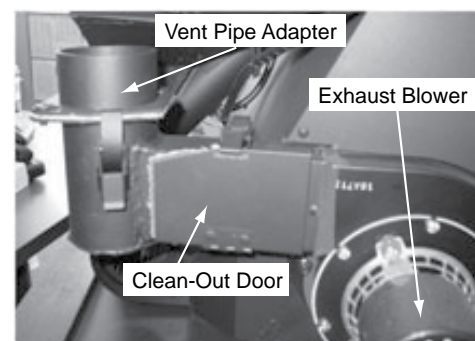

Figure 3.4
2. Reach in and unlatch the clean-out door that is connected to the rear of exhaust blower. **Figure 3.4.**